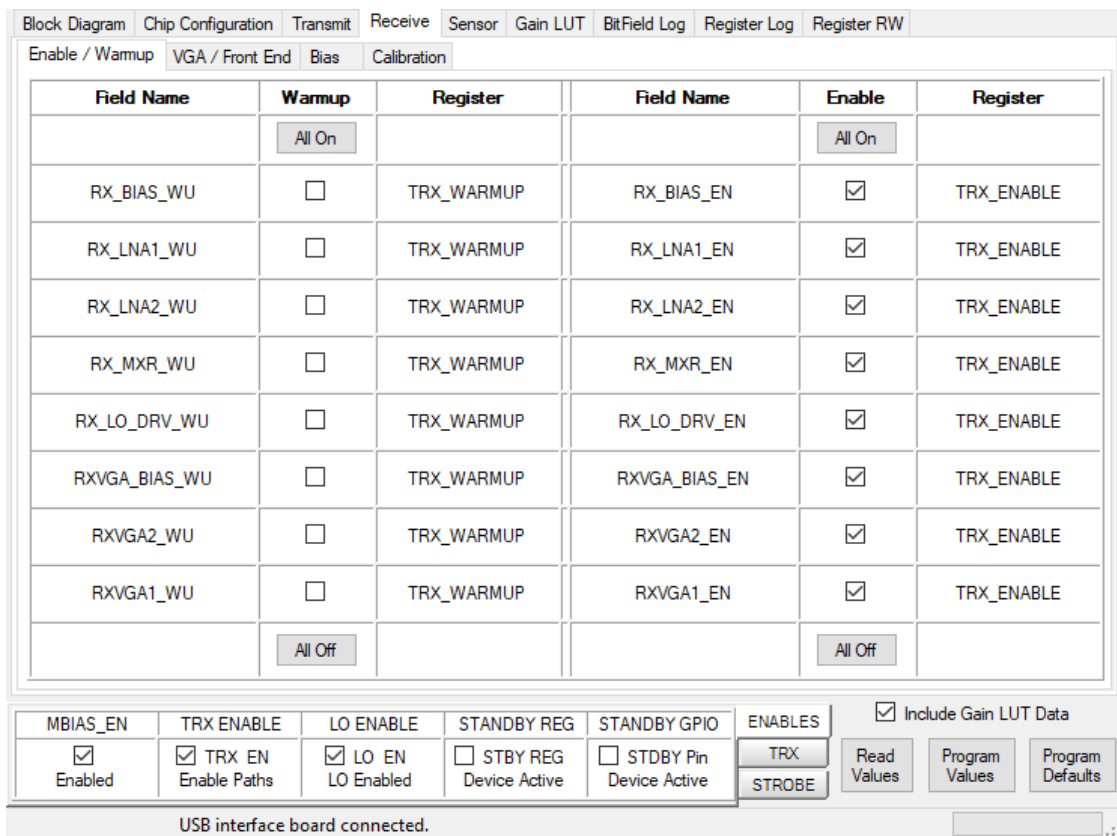

Figure 17. Receive: Enable / Warmup Panel
12. Similarly, in receive mode, individual receive building blocks and their warmup states can be configured by selecting **Receive** panel tab (Figure 5, item 10) and **Enable / Warmup** subpanel tab as shown in Figure 17.